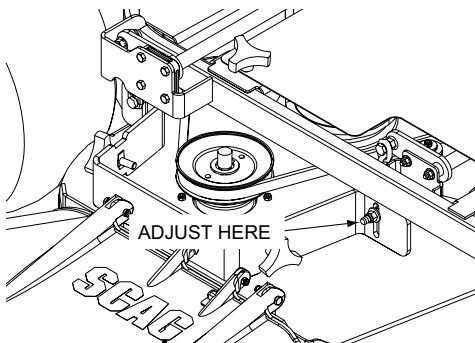

Figure 6-6. Cutter Deck Pitch Adjustment
1. Loosen the elastic stop nuts securing the hanger chains to the front of the cutter deck. See Figure 6-6 and 6-7.